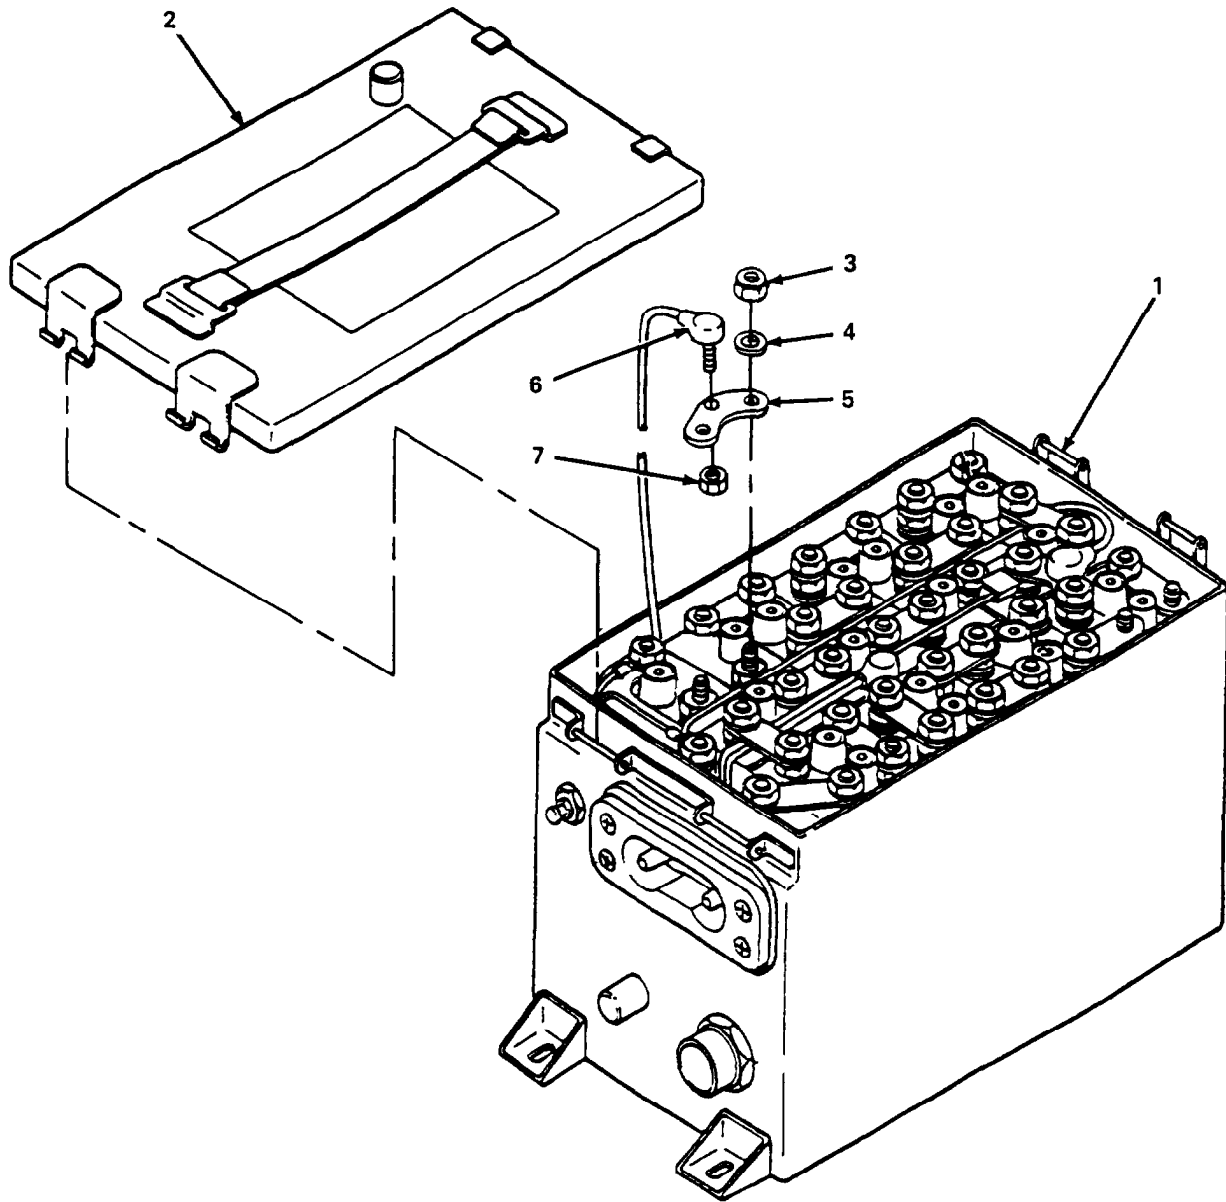

Figure 3-19. Battery 558/A Wiring Harness Thermostat Replacement.
- (l) Remove nut (6) securing wiring harness connector (4) and push wiring harness connector into battery case (7).
- (o) Install wiring harness connector (4) and secure with nut (6).
- (p) Install three cells (5). Be careful not to pinch any leads or damage heating elements.
- (q) Install link (3) and secure with two nuts (1) and washers (2). Torque nuts to 80-94 in-lb.
(3) Thermostat Replacement (fig. 3-19).
- (a) Unsnap two latches (1) and open and remove cover (2).